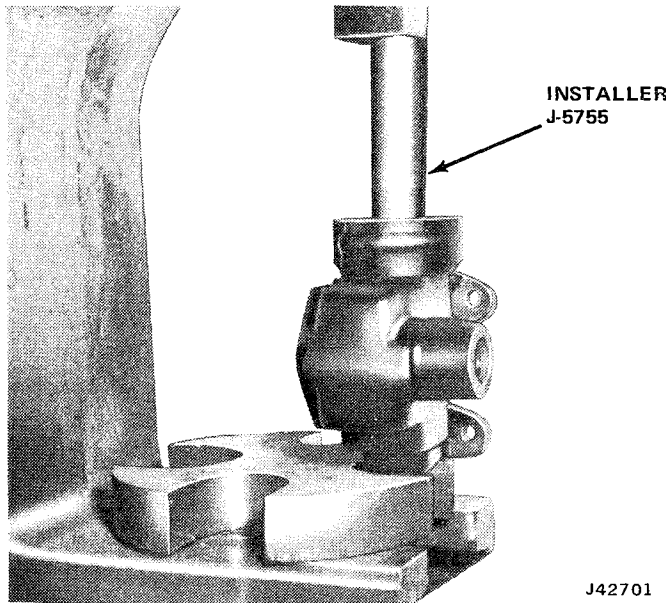

Fig. 2K-10 Wormshaft Bearing Cup Installation
(8) Install upper bearing on wormshaft and center ball nut on wormshaft.
(9) Install assembled wormshaft and ball nut in housing (fig. 2K-4). Be sure wormshaft upper bearing is properly seated in bearing cup.